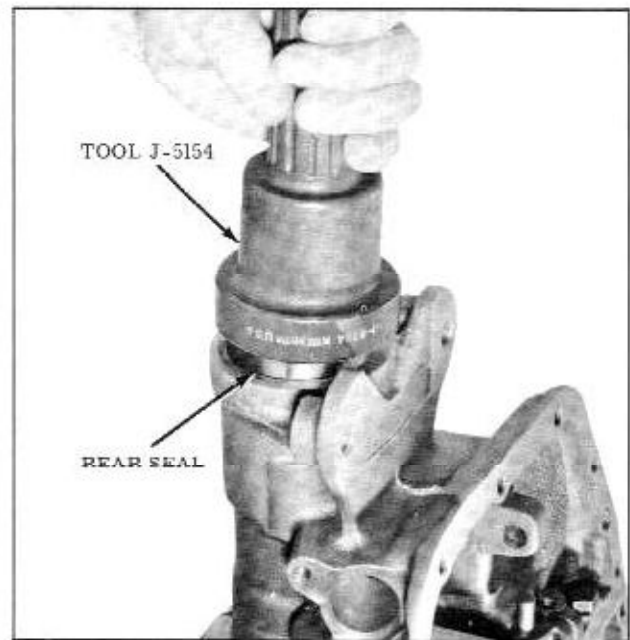

Fig. 3-72 Installing Rear Seal
4. Apply a coating of sealer such as Permatex #2, to outer diameter of the rear oil seal and install with Tool J-5154. (Fig. 3-72)